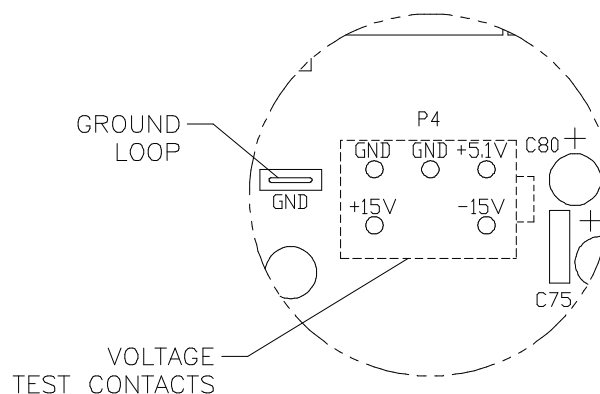

Figure 1.12 - Voltage Test Contacts
4. Voltage Test Points: The voltage test point block and additional ground loop are available for checking the system voltages used by the controller (refer to **Figure 1.12**).